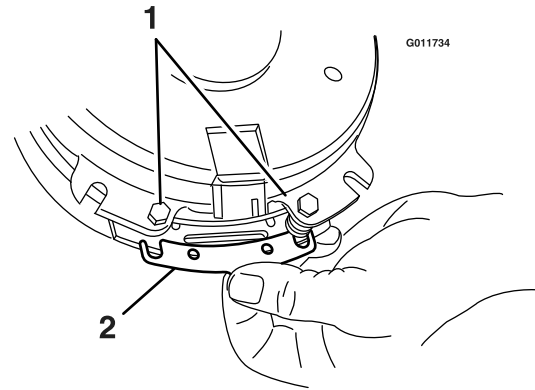

Figure 24
- A. Loosen both brake mounting bolts one-half to one full turn (see Figure 24).